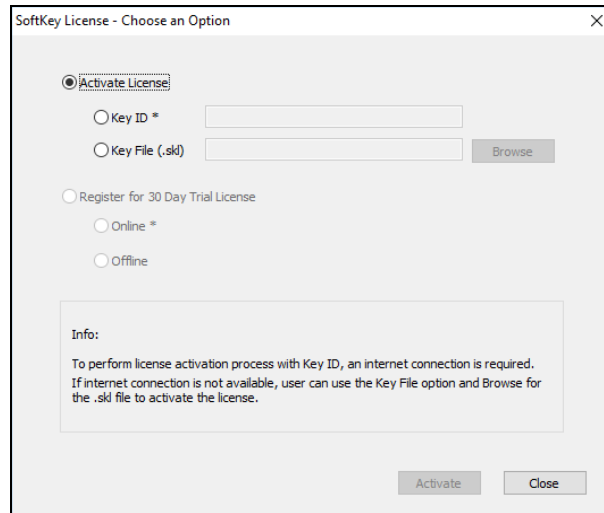

Figure 10. Activate License
- a. From the **Choose an Option** page (Figure 10), select **Key ID**.